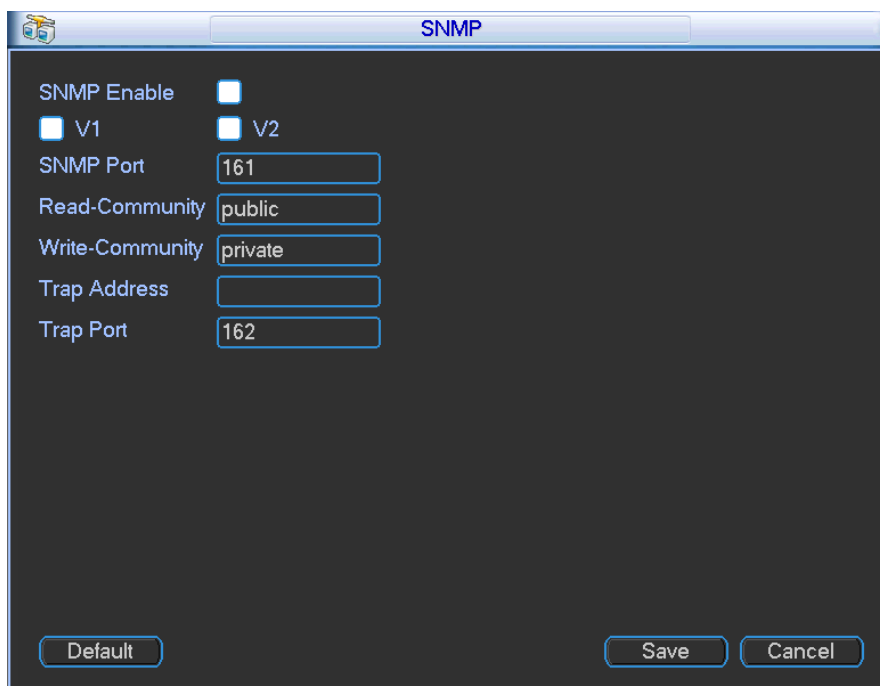

Figure 3-64
You can set in the following interface. See Figure 3-64.
- In Figure 3-64, check the box to enable the SNMP function. Input the IP address of the PC than is running the software in the Trap address. You can use default setup for the rest items.